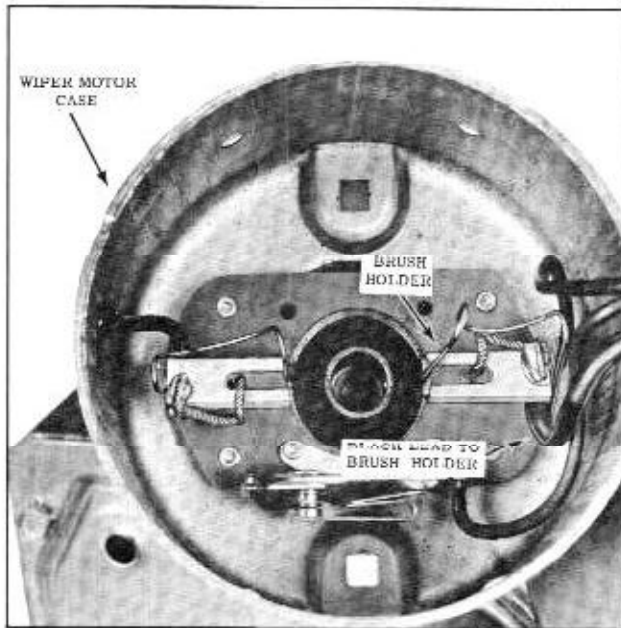

Fig. 13-115 Field Coil Connections in Case
5. Unsolder black solid wire from brush holder in case as shown in Fig. 13-115.